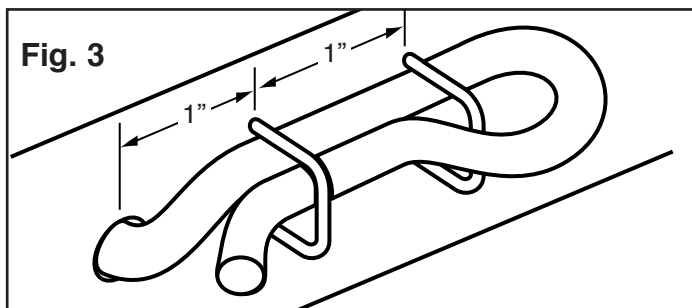

Fig. 3
4. Place two rope staples as indicated in Fig. 3. Thread the Cargo Net through the holes of the base and loop through the staples as shown (Fig. 3). Pull tight and secure by pounding staples tight against the base.